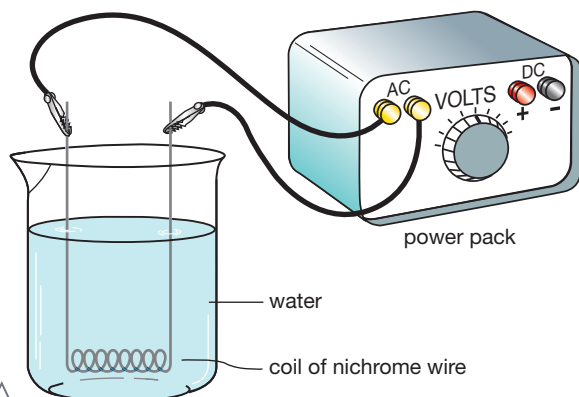

Figure 5.3.12
- 1 Make a heating element as shown in Figure 5.3.12 by winding the middle section of the nichrome wire around a pencil. Leave 10 cm of straight wire at each end as connecting leads. Remove the pencil.